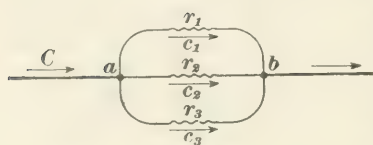

FIG. 52.
72. Fig. 52 represents a divided circuit of three branches. Let r_1 , r_2 , and r_3 be the separate resistances of those branches, respectively. Then, $\frac{1}{r_1}$, $\frac{1}{r_2}$, and $\frac{1}{r_3}$
EXAMPLE.—In Fig. 52, given $r_1 = 5$ ohms; $r_2 = 10$ ohms; and $r_3 = 20$ ohms; find their joint resistance from a to b .
For example, if the currents in the three branches, Fig. 52, are 16, 8, and 4 amperes, respectively, and the joint resistance from a to b is $2\frac{6}{7}$ ohms, then the difference of potential between a and b = $(16 + 8 + 4) \times 2\frac{6}{7} = 28 \times \frac{20}{7} = 80$ volts.
For example, in Fig. 52, assume that the separate resistances of the three branches are 5, 10, and 20 ohms, respectively, and that the difference of potential between a and b is 80 volts. Then, the current in the first branch is $\frac{80}{5} = 16$ amperes; in the second, $\frac{80}{10} = 8$ amperes; and in the third, $\frac{80}{20} = 4$ amperes.
For example, in Fig. 52, assume the difference of potential between a and b to be 80 volts and the currents in the separate branches to be 16, 8, and 4 amperes, respectively; then, the resistance of the first branch is $\frac{80}{16} = 5$ ohms; of the second, $\frac{80}{8} = 10$ ohms; and of the third, $\frac{80}{4} = 20$ ohms.